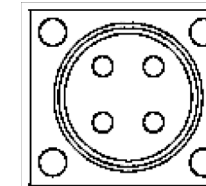

Figure 4: Power Cable Connector
8. Connect the power cable (see *Figure 4*).